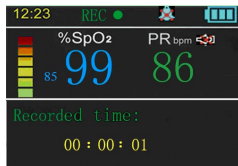

Figure 5.8 Stop recording menu
- 2) When "Record" is "ON", select it to enter the stop recording menu shown as Figure 5.8. The prompt information "You will stop recording? Are you sure?" appears on the interface, select "Exit" after setting to "Yes" to exit the stop recording interface to enter the measurement interface; select "Exit" after setting to "No" to enter the interface which will continue recording.